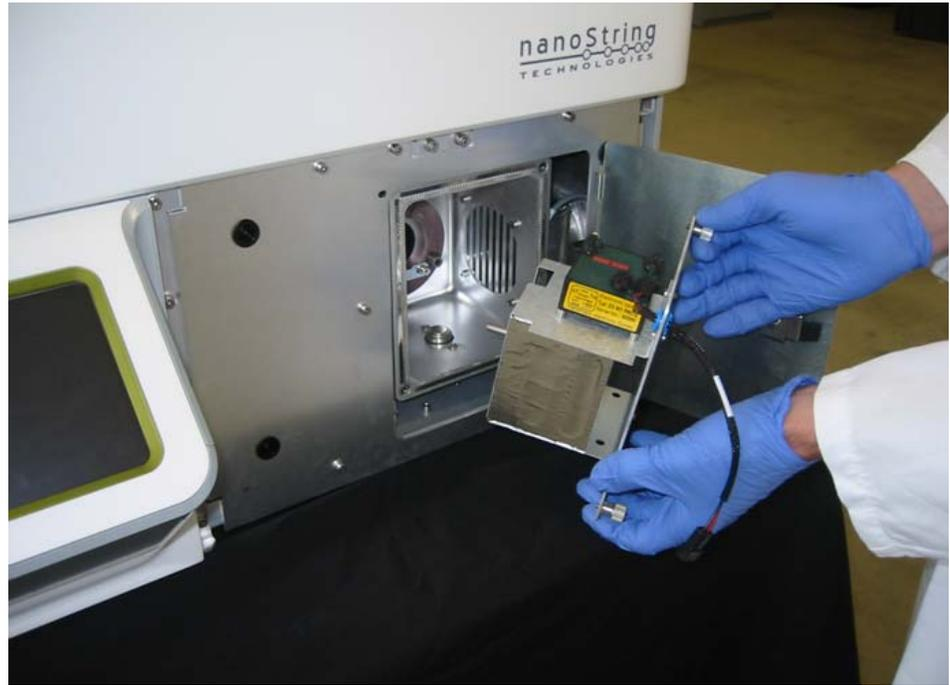

Figure 3.13 Removing the Bulb Housing Unit
6. Remove the bulb housing unit by gently pulling out (Figure 3.13).